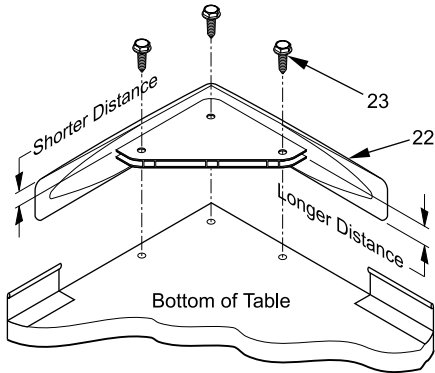

Figure 6
11. Attach four Corner Caps #22 to bottom of table, as shown in Figure 6, using three screws #23 per Corner Cap.